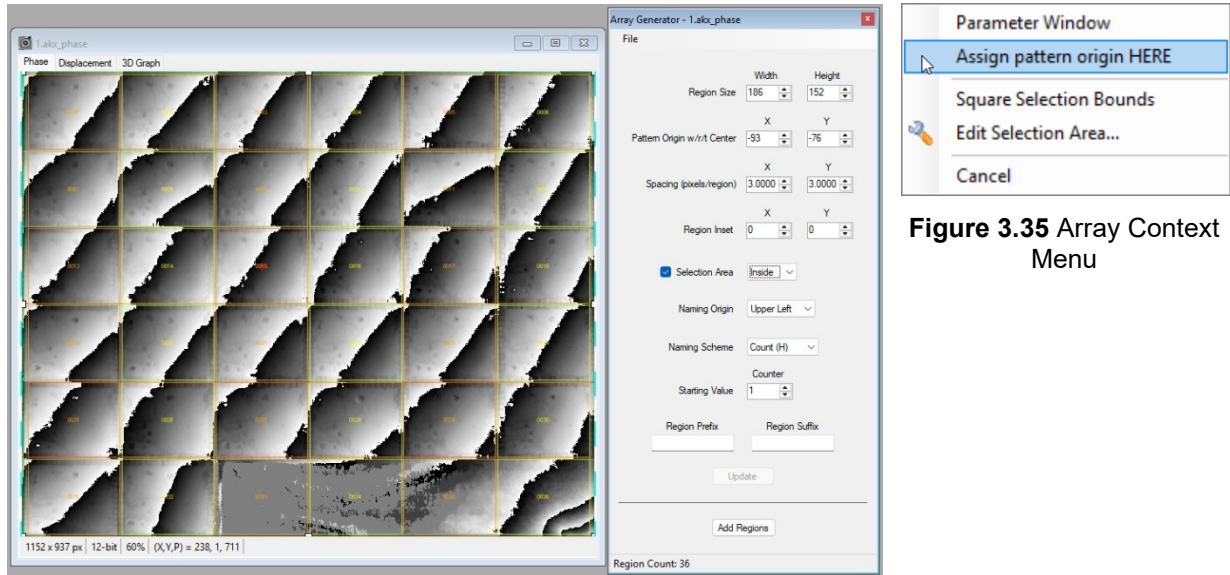

Figure 3.34 Partition Array Parameters
2. A checkerboard pattern representing where partition regions will be placed appears on the data. Also, a window with various array parameter options appears (**Figure 3.34**). **Width** and **Height** refer to the individual dimensions of each partition region. The **Pattern Origin** is the distance of the center of the pattern from the center of the image. **Spacing** controls how much space exists between each partition region. **Region Inset** refers to how much of each pattern region is covered by the final partition (a larger inset reduces the size of each partition region). Finally, **Selection Area** controls whether the partition array is placed inside or outside the green bounding box. Each option affects all ROIs in the same way.